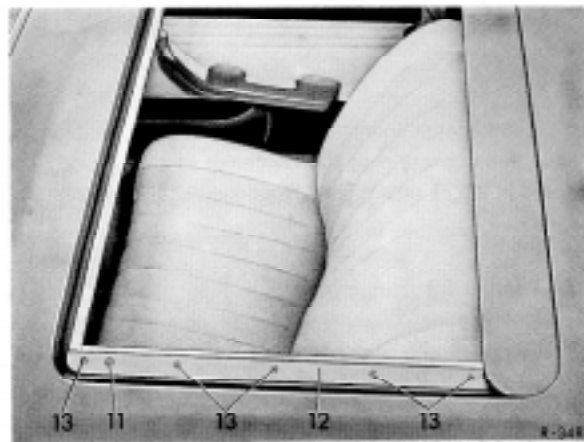

Fig. 2 (shown on Model 114/115)
2 Open sliding roof completely and remove sliding rail (12) at left and right (Fig. 2).